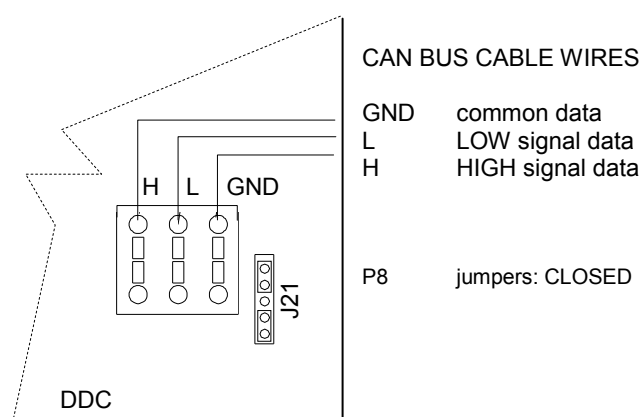

Figure 31 – Connection of 1 CAN BUS cable to the DDC: THE DDC IS A TERMINAL NODE. Note the position of the wires of the CAN BUS cable and the jumpers: CLOSED
If the DDC is a **terminal node** on the network (there are 3 wires attached to the orange connector): position the jumpers on the DDC as shown in Figure 31: CLOSED.
6. Connect the three coloured wires to the orange connector, following the diagram seen in Figure 31, page 66.
Observe the correct L, H, GND indications given in Table 24 on page 61, in Figure 31 and on the circuit board of the DDC at the base of the connector.